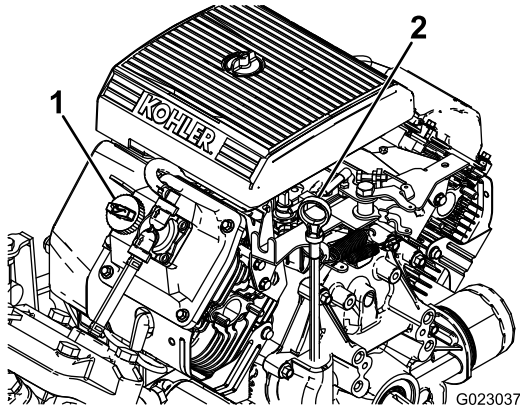

Figure 11
2. Remove the dipstick and wipe it with a clean rag (Figure 11).
4. If the oil level is low, remove the filler cap from the valve cover (Figure 11) and pour oil into the opening until the oil level is up to the FULL mark on the dipstick; refer to Servicing the Engine Oil \(page 47\) for the proper oil type and viscosity.